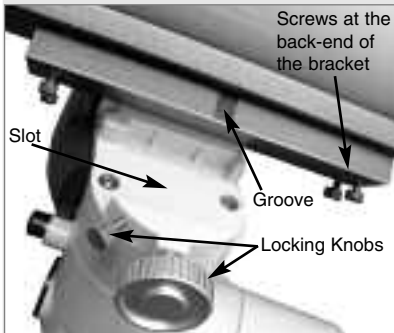

Fig. 54 Mounting the SC bracket and optical tube to the mount.
2. Slide the mounting bracket into the cradle assembly mounting slot. For most applications, set the groove in the bracket next to the cradle locking knob, so that the bolt of the cradle locking knob will enter the groove when the knob is tightened. Tighten both the cradle locking knob and the secondary locking knob to a firm feel. See **Fig. 54**.
If you are using heavy accessories (such as a camera, microfocuser, etc.) on the back end of the tube, you may need to balance the tube differently to keep the tube from drifting downward: Slide the mounting bracket and tube forward, until the screws at the back end of the tray touch the mount. See **Figs. 54** and **55**. Then tighten the cradle locking knob and the secondary locking knob to a firm feel.